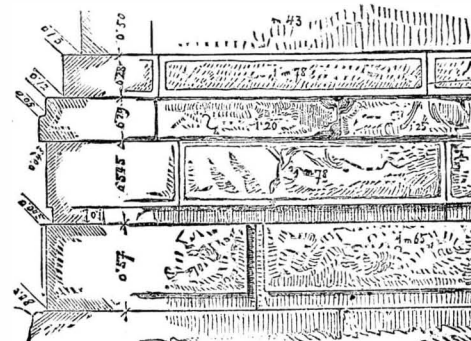
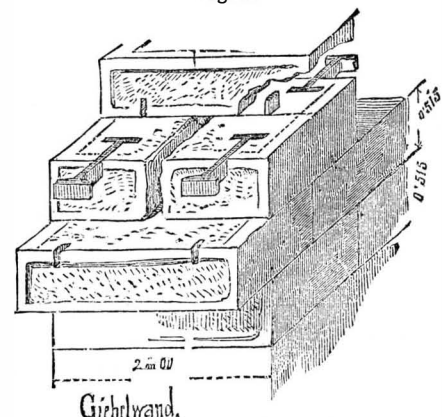

Fig. 2.
Fig. 3.
5. *Walls.*—These were always built of large blocks of stone with dressed beds and joints, the face being sometimes left rough in terrace walls (Fig. 2), sometimes having draughted margins, but always smoothly cut in important buildings. Great care was taken to obtain fine and close joints, mortar never being used, nor was the interior of the wall ever composed of a concrete of stone spalls and mortar, as in modern building. Cyclopean masonry was rarely used, and notched stones are not common, the rectangular ashlar being most frequently employed. The wall was two-faced, the courses of the sides not always corresponding, and often merely resting against each other or connected by metallic cramps, though through bond stones are sometimes found (Fig. 3). No separate and proper foundation was provided, but the wall stood on the stone
columns were set under the centers of each alternate triglyph, or rarely under each third triglyph. This made the intercolumniation next the angle less than the others, thus further increasing the apparent stability of the corner. But the position of each column was rigidly fixed, once the diameter of the shaft and number of columns had been decided. The distance between centers of columns was generally 2-6 diameters. (See Fig. 2.)